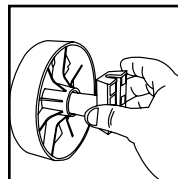

FIGURE 8
11. Insert axle housing into wheel, with the longer end of the housing facing up. **FIGURE 8.**